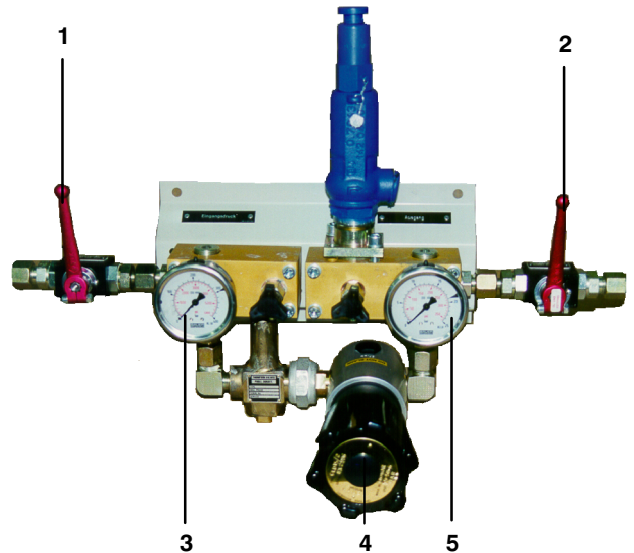
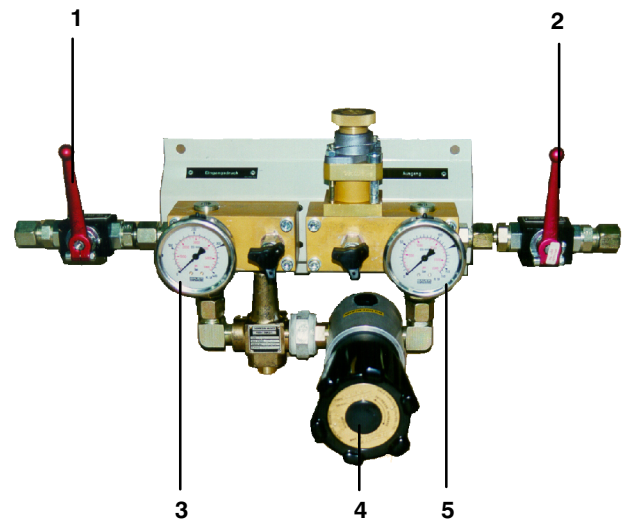

Fig. 1 Pressure reducing station 365/5-40 bar
Fig. 2 Pressure reducing station 365/221-350 bar
The two pressure gauges show the inlet pressure (3) and the outlet pressure (5) (see Fig. 1 and Fig. 2).
- both shut-off valves (1) and (2) have to be open (see Fig. 1 and Fig. 2)